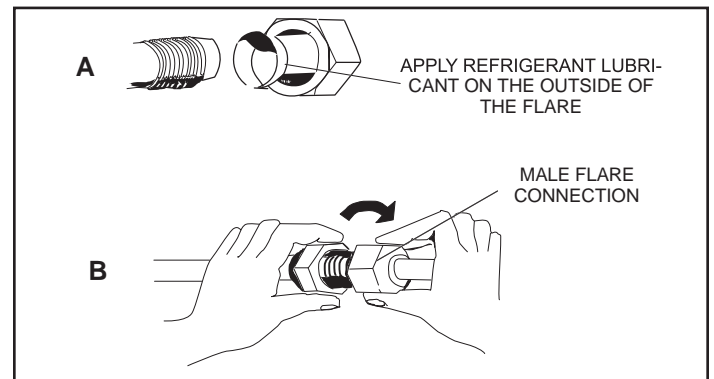

Figure 3. Making Connections (Male to Female Connection)
6. If the unit is being installed in an application that includes a sheet rock (plasterboard) ceiling, it is required that an access panel be installed in a suitable location. This will also allow access for future maintenance (requirement of Lennox warranty program). Access is required during the commissioning process to test the condensate disposal system (See Figure 9), to check the electronic expansion valve and associated flare nuts (See Figure 3), and to check the local disconnect.
5. Apply recommended HFC-410A refrigerant lubricant to the outside of the flared refrigerant lines (Figure 3-A).
6. Align the threaded connections with the flared refrigerant lines. Tighten the flare nuts lightly at first to obtain a smooth match (Figure 3-B).